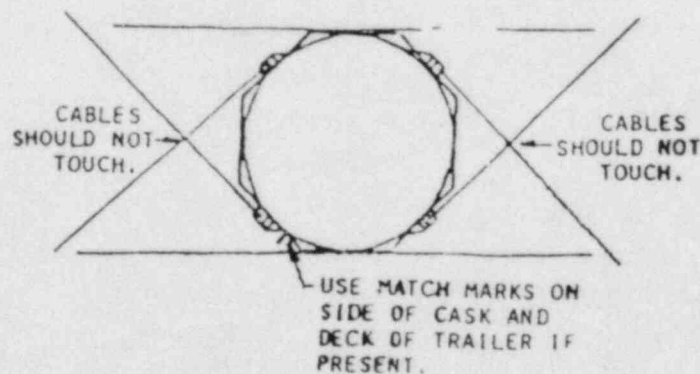

Figure 4
6.3.9.1 Using the four (4) cask lift lugs and suitable rigging, lift cask and place in proper position within the shear blocks provided on the trailer. See Figure 4 for proper orientation.